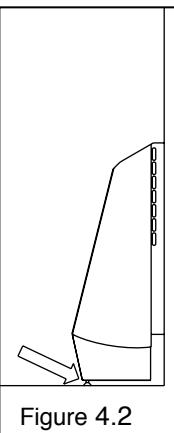

Figure 4.2
- Adjust the height of the adjustable base screws: the stove should rest against the fastening plate (Fig. 4.2).